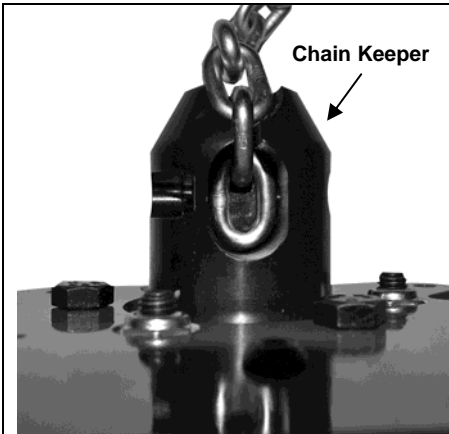

Figure 2-16
- 1) Place the chain into the chain keeper. (Refer to Figure 2-16)